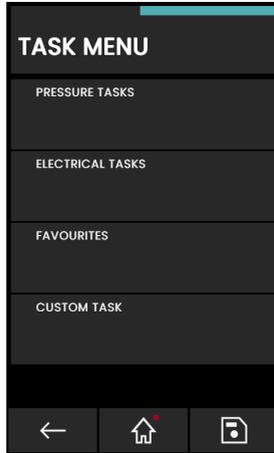

Figure 3-4: Task Menu
1. Select **CUSTOM TASK** from the **Task Menu** (see Figure 3-4 on page 30). This shows the **TASK SETTINGS** screen.